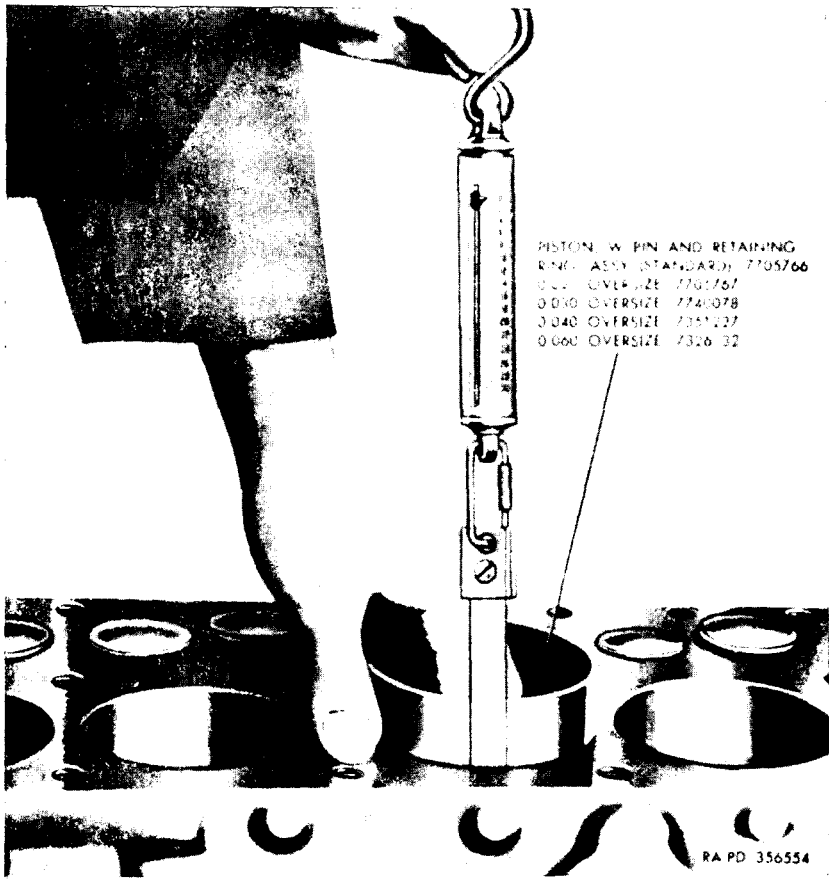

Figure 61. Fitting piston to rebored cylinder.
b. Fitting Pistons to Cylinder Bore. If the cylinders have been rebored, select pistons and check the clearance using 0.002-inch feeler stock, 1/2-inch wide and long enough to extend down into the bore to the full length of piston travel. Insert the piston (fig. 61) in cylinder bore, upside down, with the feeler stock installed between the thrust side of the piston skirt and the cylinder wall. Draw out feeler stock with spring scale. The amount of pull required to withdraw feeler stock should be between five and seven pounds. Pistons should always be fitted at normal room temperature of 70° F. Fin-